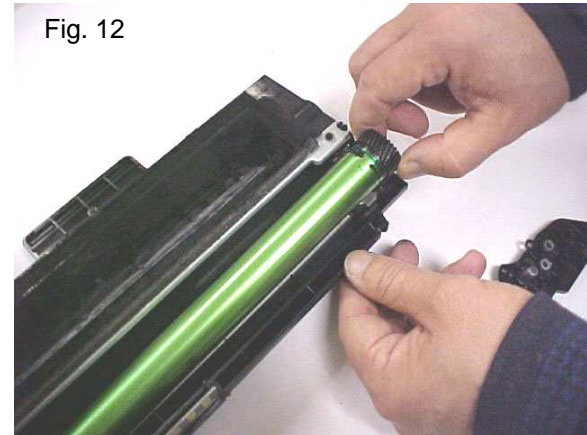

Fig. 12
12. Remove the OPC drum and clean with compressed air or vacuum and a lint free cloth (Fig.12).